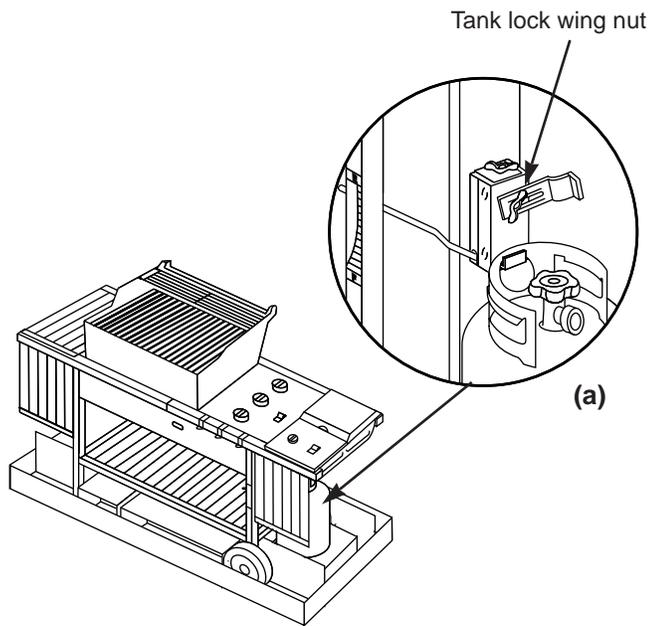

Figure 9
- 1) Loosen tank lock wing nut and turn tank lock up out of the way. Tighten wing nut. Figure 9 (a).